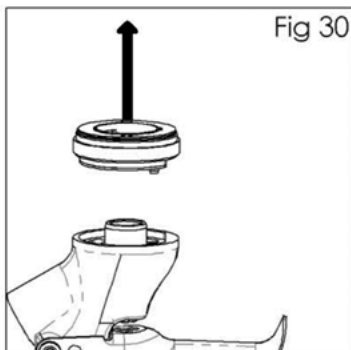

Fig 30
5. Remove spray head (9) and seal (10) (See fig 30).